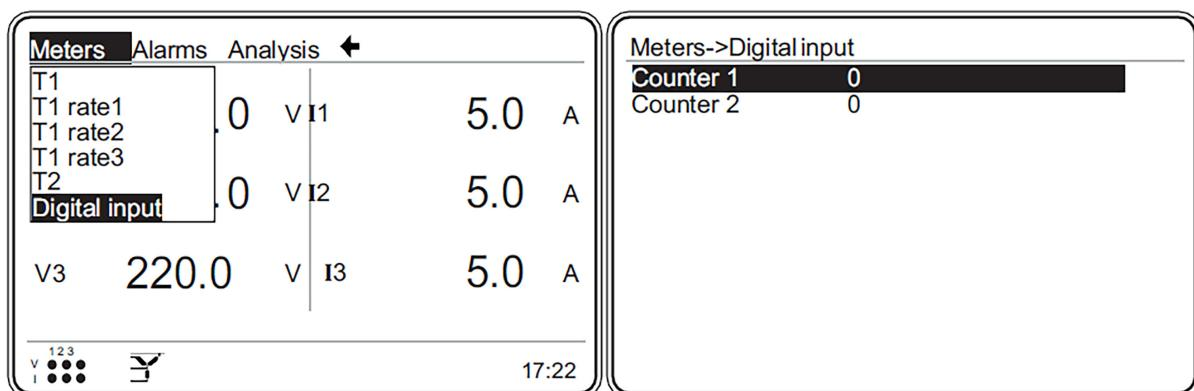

Figure 3.31: Digital input1 counter
- Assume that for digital input 1, ‘Counter’ is selected as the mode setting. Under this condition, each time DI1 and GND pins are short-circuited, “Meters->Digital input-> Digital input1 counter” counts (Figure 3.31 on page 3-17).